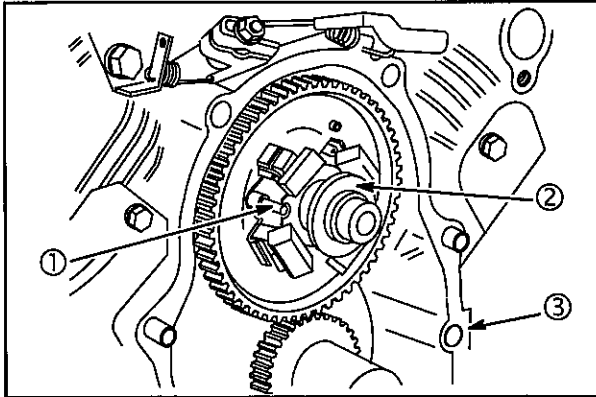

Fig. 5
3. Align timing marks on camshaft and crankshaft timing gear. Install camshaft, **Fig. 5**.
4. Assemble governor spool (2) to camshaft (except Models 540000, 610000).
- a. Install new O-ring (3) in cylinder.
- b. Make sure that spool engages flyweights and slot on spool fits over locating pin (1).